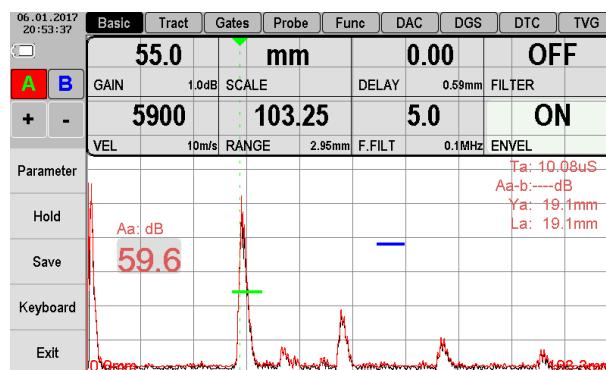

Figure 2.51 – Fixing the maximum signal amplitude in envelope curve mode
6. Turn on envelope curve mode («ENVEL») and fix the maximum signal amplitude in A-gate from the nearest (first) reflector (Figure 2.51).